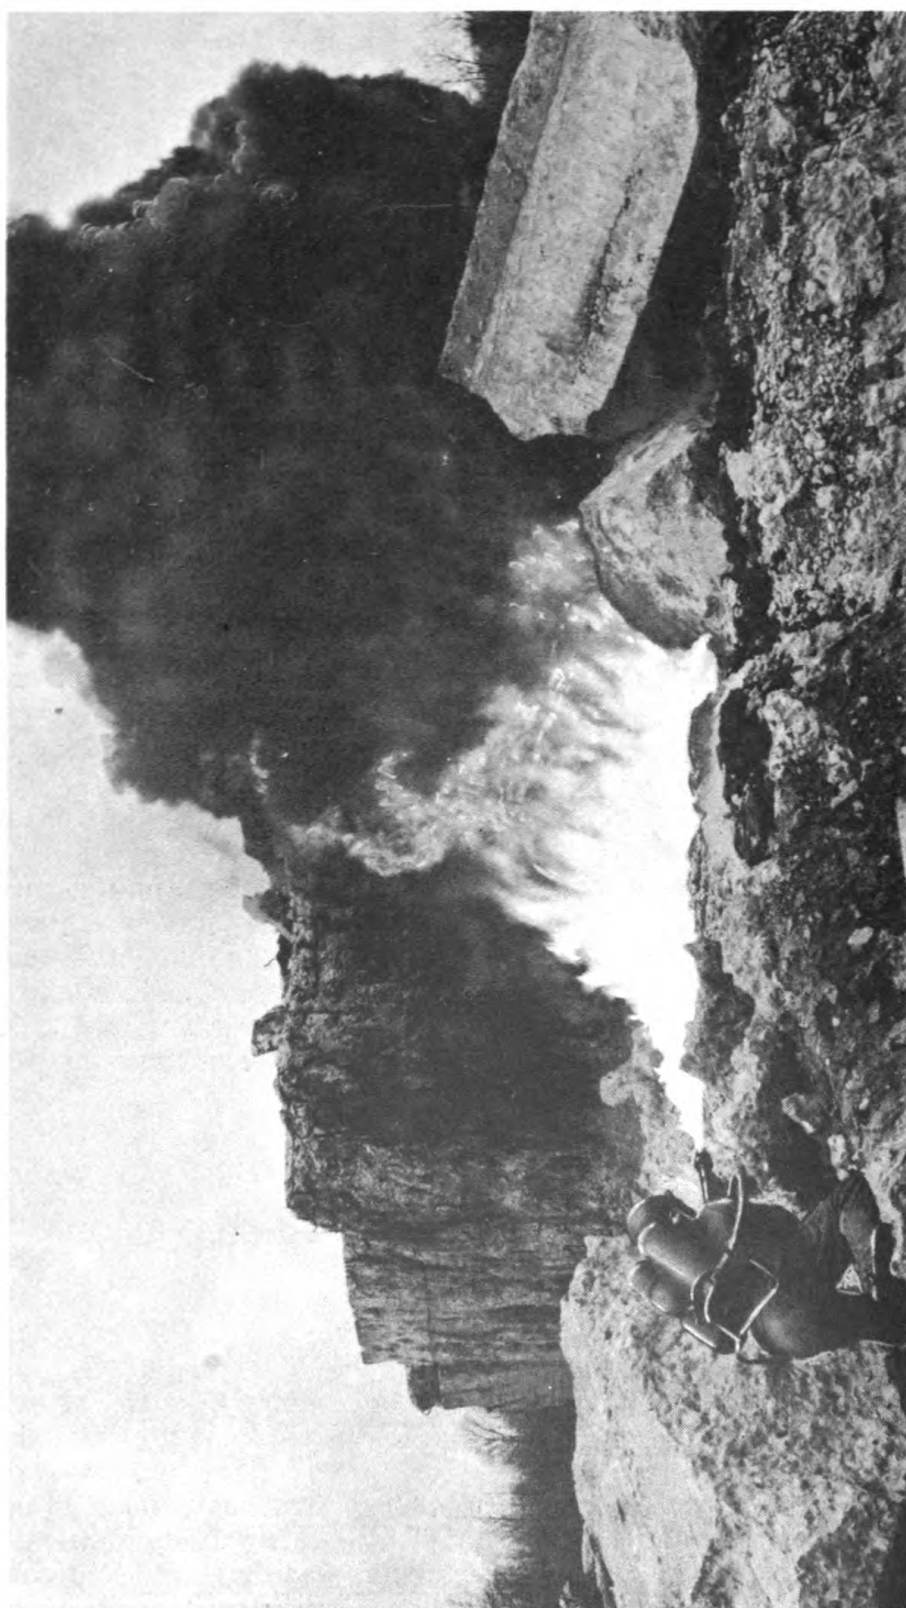
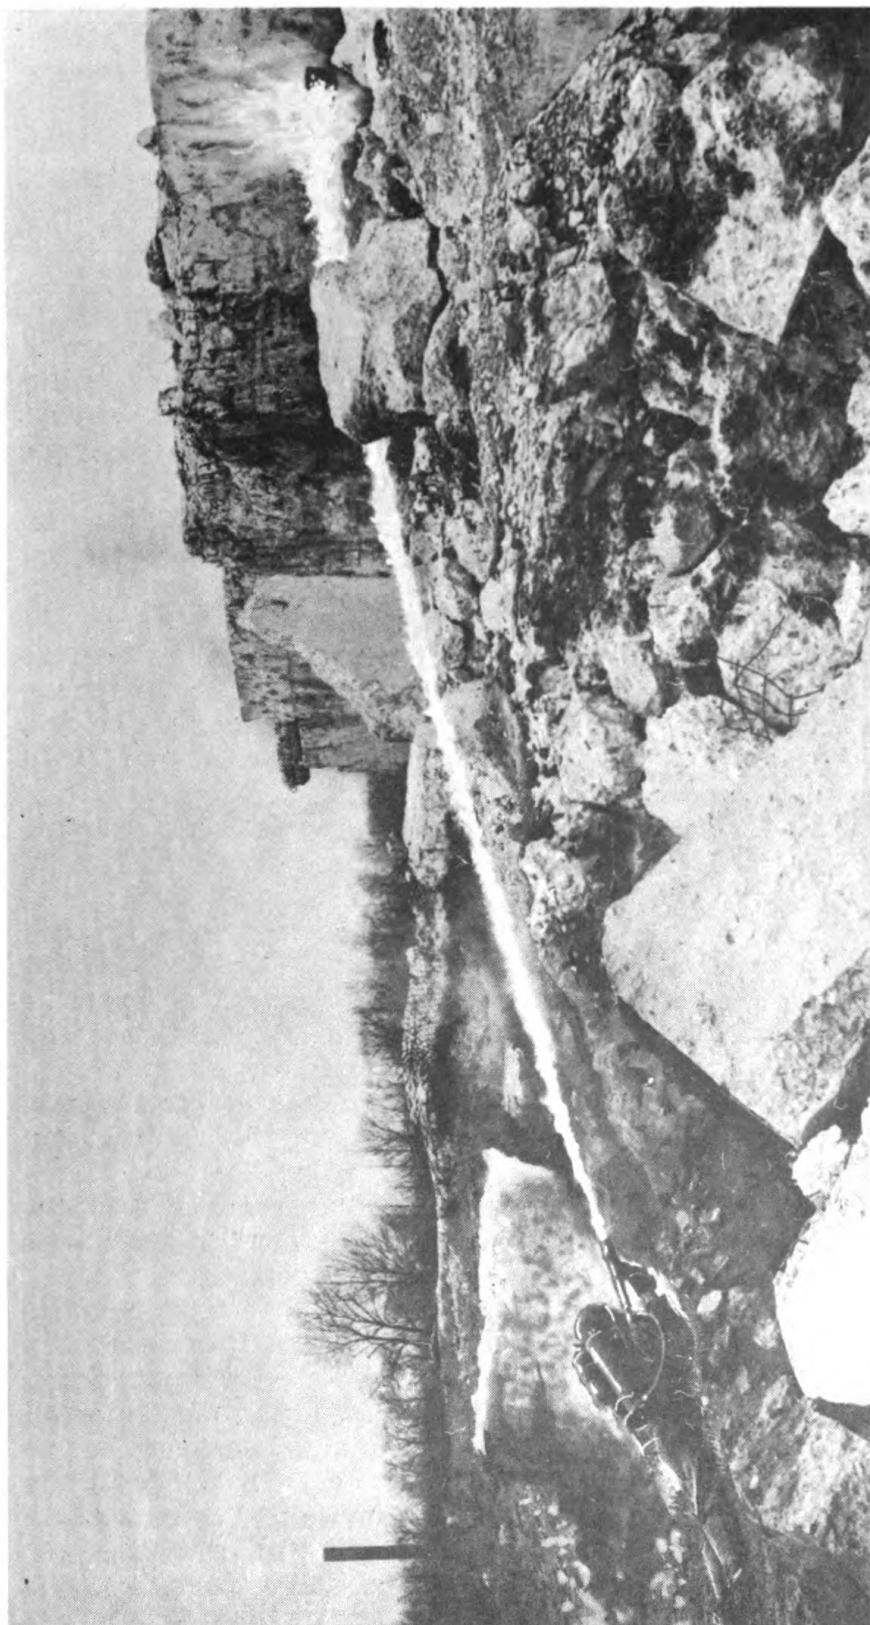

Fig 2. Firing with liquid fuel.
Fig 3. Firing with thickened fuel. Thickened fuel has longer range than liquid fuel and burns on target for several minutes.
c. Range. Portable flame throwers are fired at extremely close or point-blank range for best results. (Par 22) Effective range for liquid fuels (Fig 2) is as far as 20 yards, and for thickened fuels (Fig 3), 40 yards, but underbrush and adverse winds can reduce the distances.